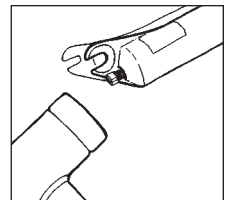

Fig. 6
6. Partially loosen shaft bolts with a 5mm hex wrench, tap bolts firmly with a mallet breaking shafts free from lower tube (see Fig. 6), and remove bolts completely. Oil from the Hydracoil/free valve system will pour out of the